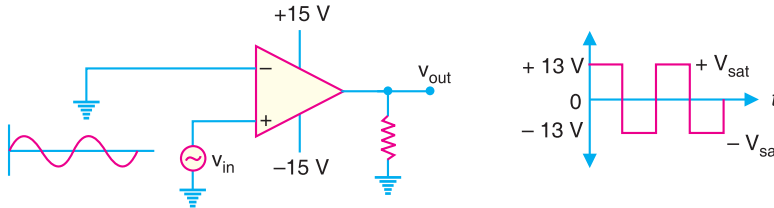

Fig. 25.94
1. As a square wave generator. A comparator can be used to produce a square wave output from a sine wave input. Fig. 25.94 shows the circuit of a comparator to produce square wave output. Note that inverting terminal (–) is grounded and signal (v_{in}) is applied to the noninverting terminal (+). Since the gain of a comparator is equal to A_{OL} , virtually any difference voltage at the inputs will cause the output to go to one of the voltage extremes ($+V_{sat}$ or $-V_{sat}$) and stay there until the voltage difference is removed. The polarity of the input difference voltage will determine to which extreme ($+V_{sat}$ or $-V_{sat}$) the output of the comparator goes.